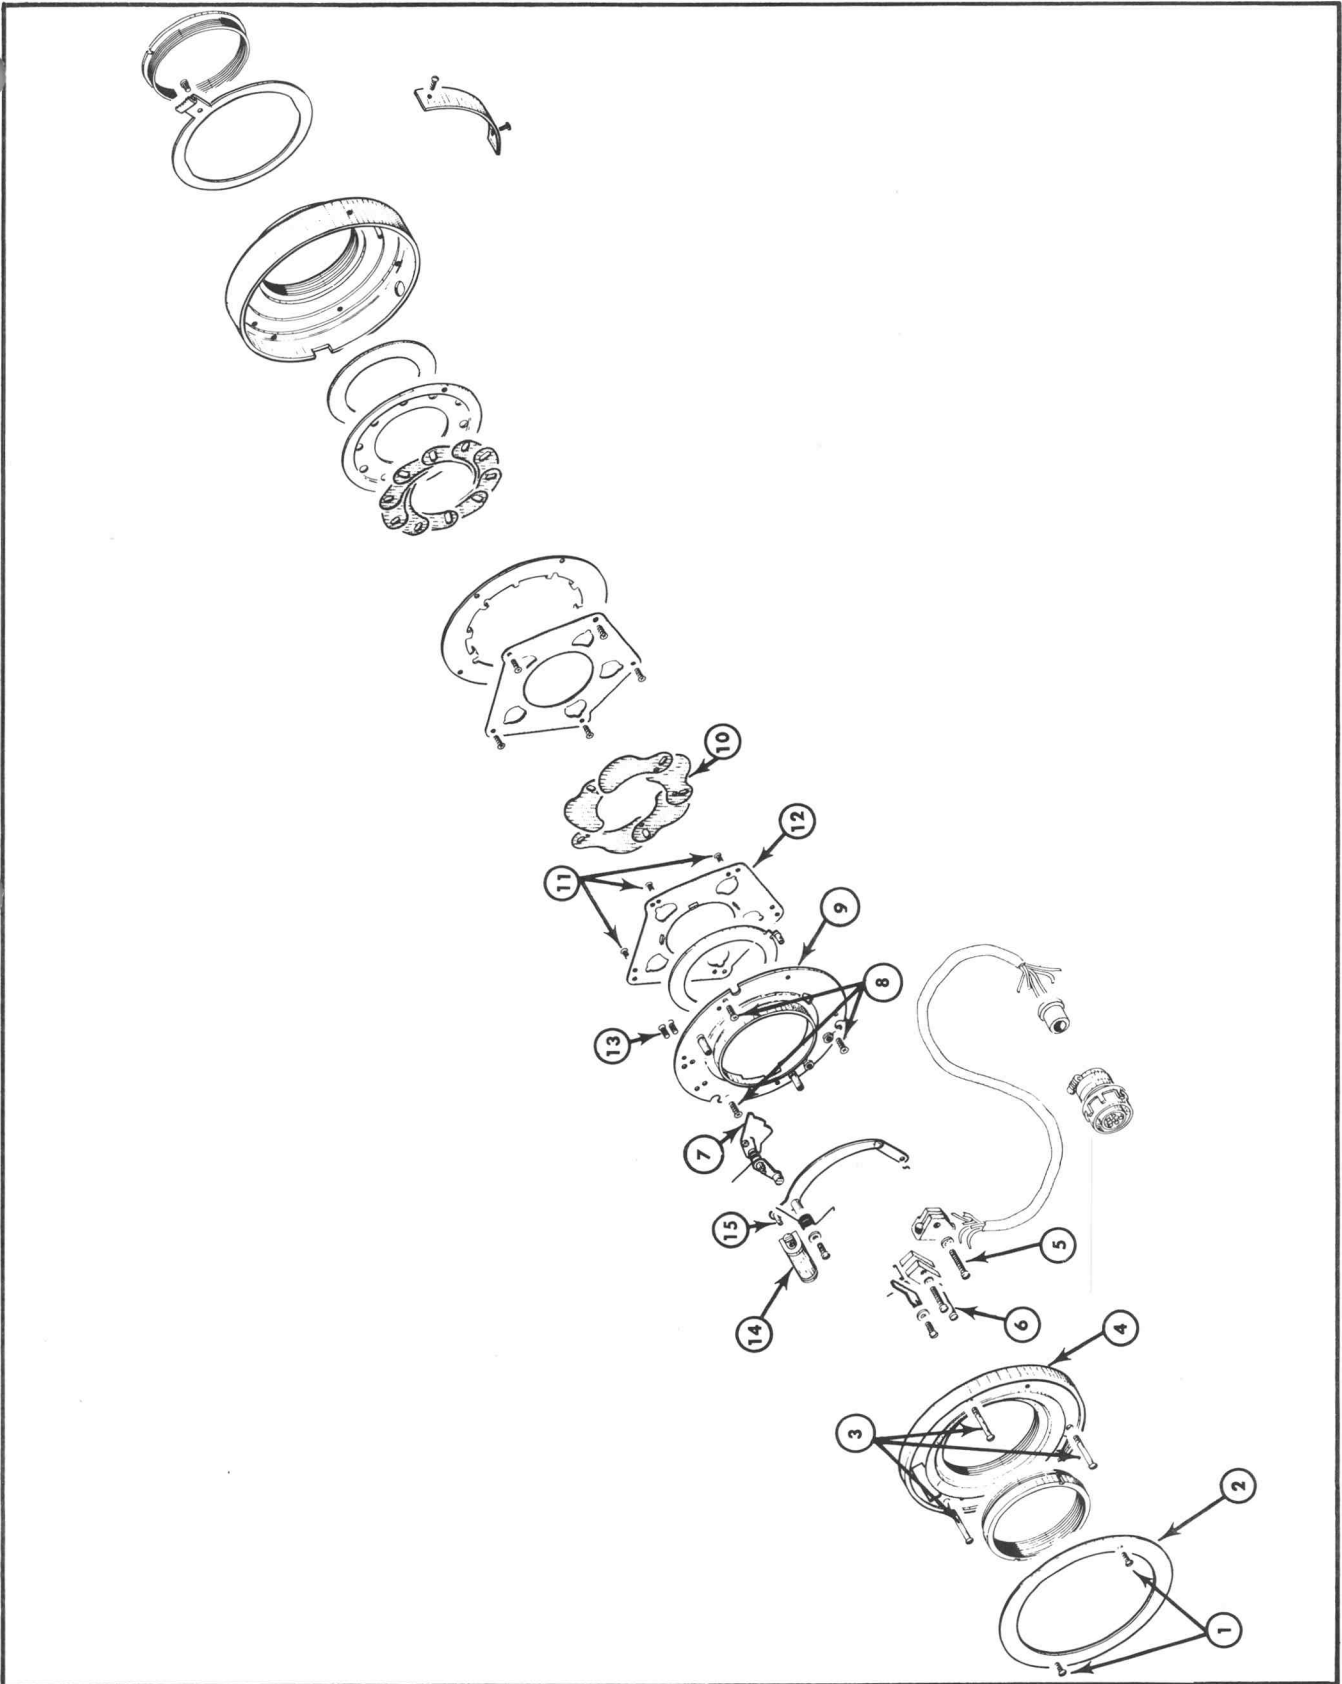

Fig. 6-2. Exploded illustration of the Electric Shutter.
- c. Remove two small screws from the identification plate on the shutter and remove the identification plate (see Fig. 6-2 items 1 and 2).
- d. Remove the three screws from the shutter cover and remove the shutter cover (see Fig. 6-2 items 3 and 4).
- e. Remove the cable clamp screw and microswitch clamp screws (see Fig. 6-2 items 5 and 6). Remove the piece of electrical tape.
- b. Remove the Press Focus lever (see Fig. 6-2 item 7).
- c. Remove three screws from the master plate and lift the master plate out of the shutter case (see Fig. 6-2, items 8 and 9). The shutter blades (Fig. 6-2, item 10) will normally fall out of position.
- d. Remove five screws from the ring plate on the rear of the master plate and remove the ring plate (see Fig. 6-2 items 11 and 12).
- e. Remove the three screws (from the rear of the master plate) which hold the solenoid in place, see Fig. 6-2, item 13.
- f. Carefully lift the solenoid from the front of the master plate, taking care not to bend the main lever pin (see Fig. 6-2 items 14 and 15).